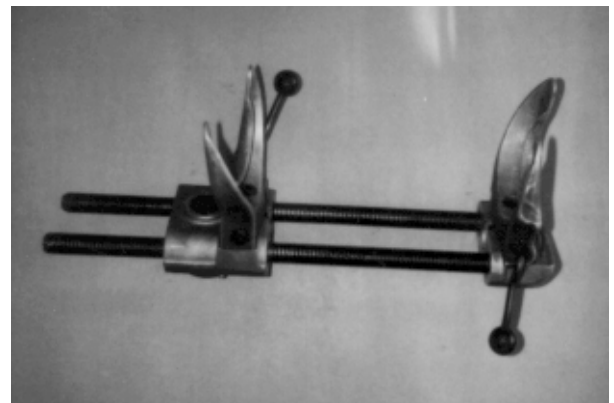

Figure 6
2. ≤ Compress a new coil spring (615 or 618) to 16" in length. Use a quality spring compressor like the one shown in figure 6.